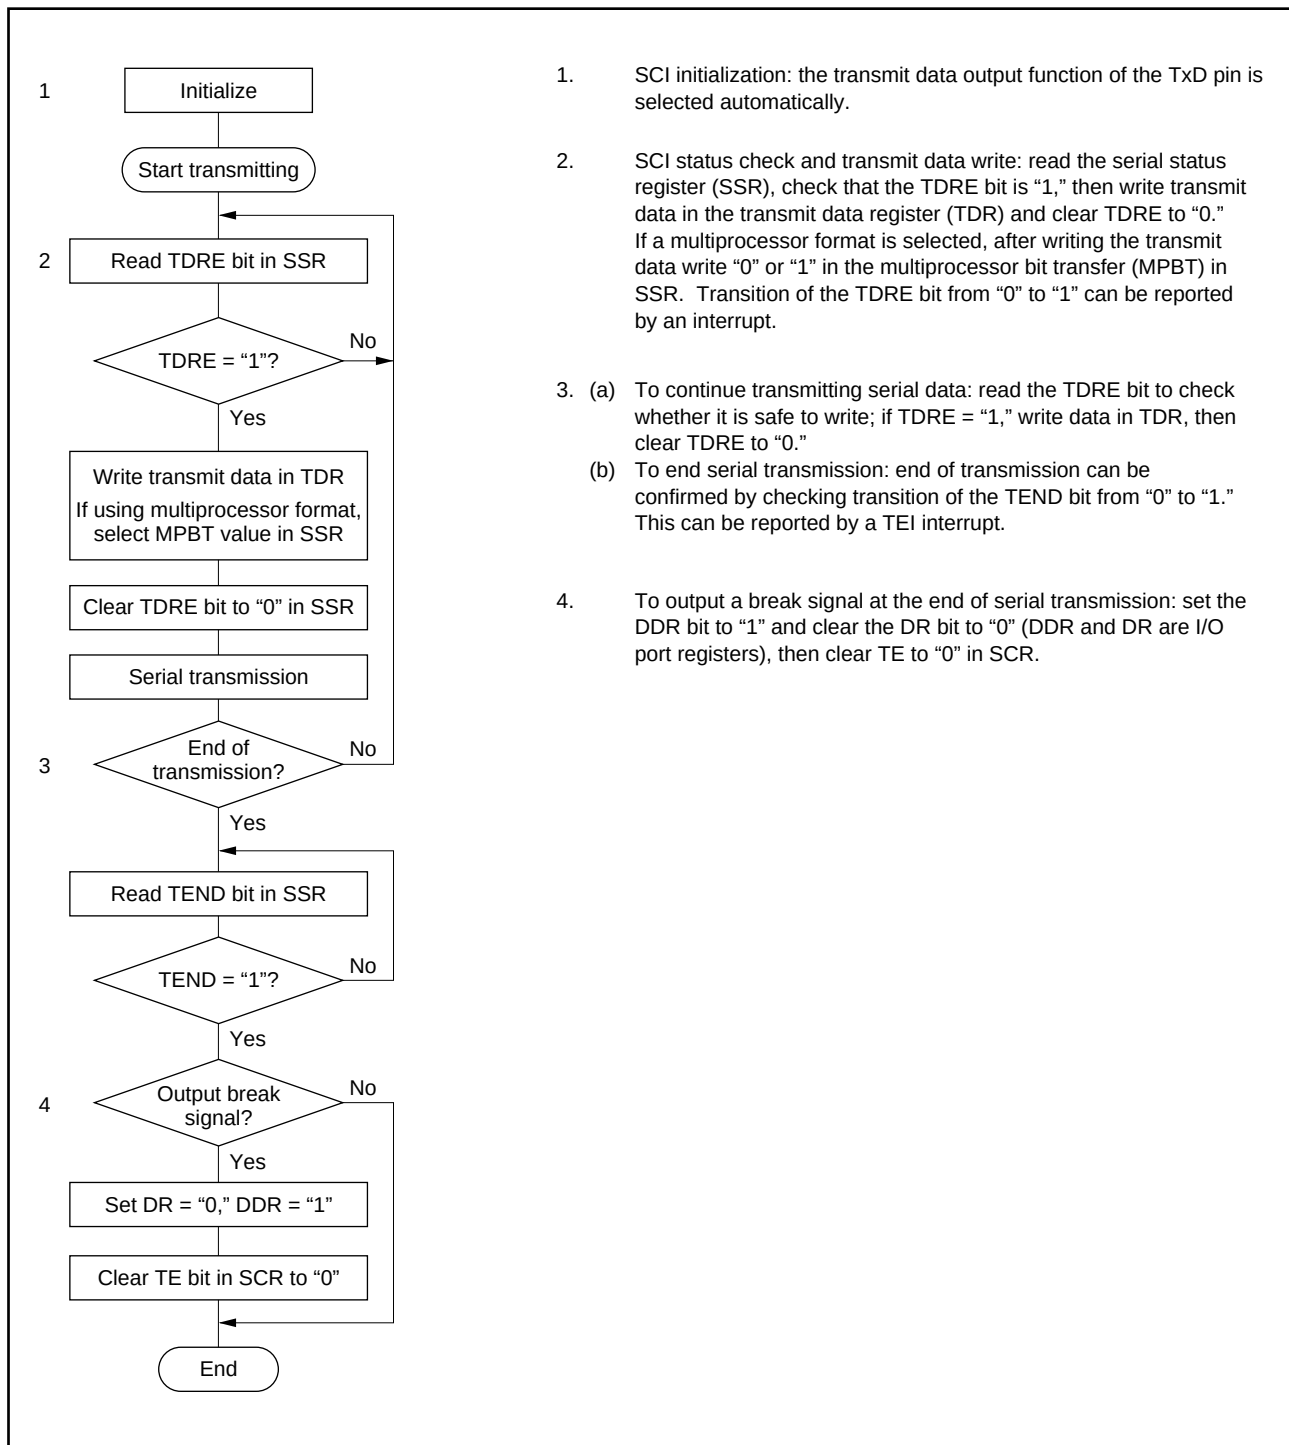

Figure 8-5. Sample Flowchart for Transmitting Serial Data
• **Transmitting Multiprocessor Serial Data:** See figures 8-5 and 8-6.